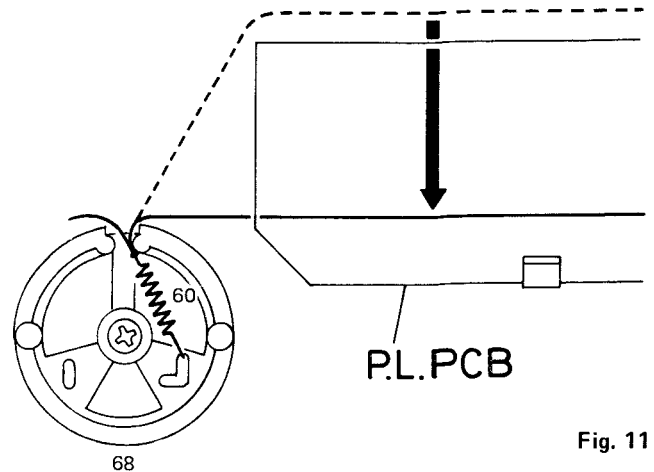
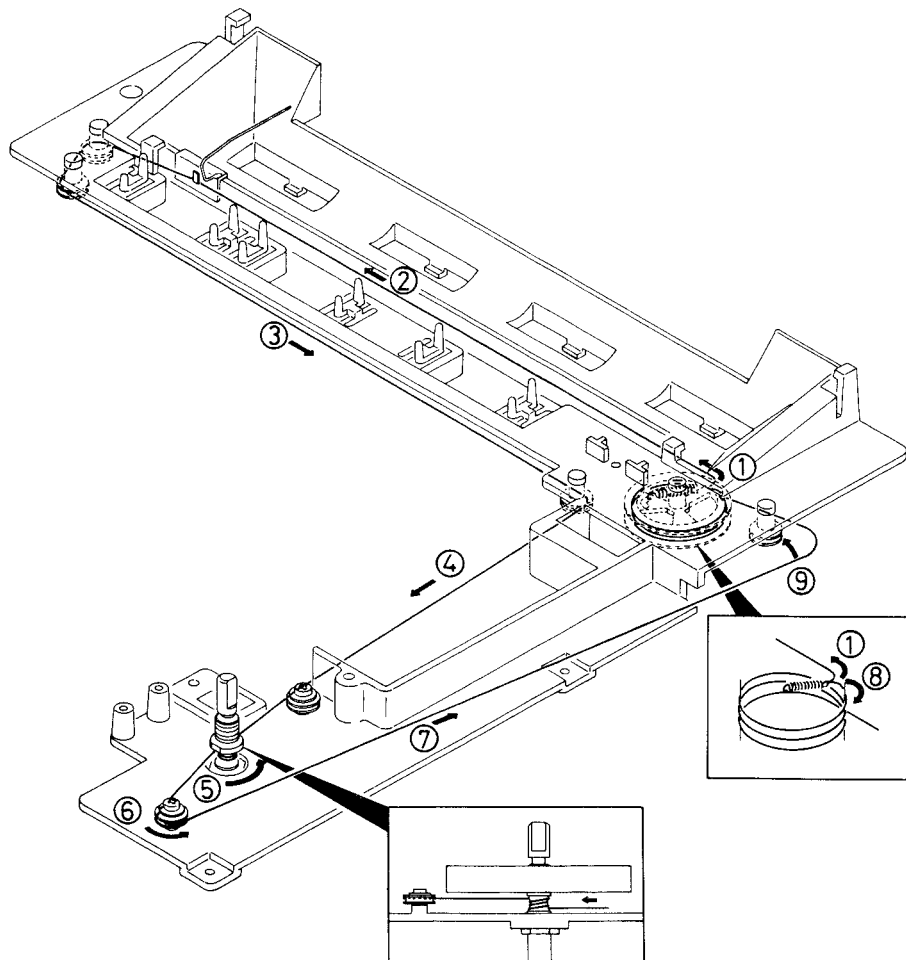

Fig. 11
Fig. 12
3. Hook the spring coil (60) to the drum (68) and thread the dial rope through the gap between the bracket mounting and pilot lamp PCB. (cf. Fig. 11). Run the dial rope around the pulleys from ① to ⑦ as in Fig. 12. Wind the loose end of the dial rope and put it around the pulley ⑨ as in Fig. 12.